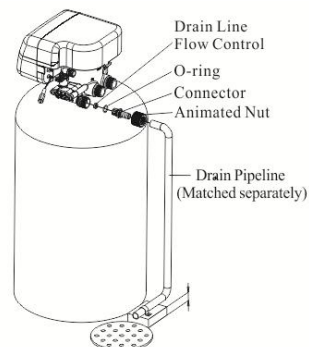

Figure 8
④ Install leakage sensors
⑤ Install drain pipeline
- As the Figure 8 shows, put the DLFC into the drain outlet.
- Locate the drain hose well as the Figure 8 shows.
●**Be sure not connect drain with sewer directly, and leave a certain space between them (Such as showed in the Figure 8.), avoid wastewater being absorbed to the water treatment equipment.**